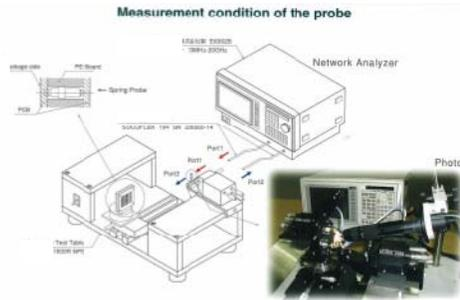

Fig 3. Measurement condition
- (1) Complete $Z_0=50$ ohm Coaxial Spring Probe Contacts.
- (2) Socket GND organize block.
- (3) Regular composed Spring Probe block.
Best performance was brought from a combination of combining (1) and (2). It was confirmed by S parameter loop measurement by specialized board and Network Analyzer using like Fig. 3. And total cost saving comes from composing of (3).
High frequency signal source through a Pico Probe touching to the specialized board (characterized to $Z_0=50\text{ ohm}$) holding Probe or Coaxial Probe be assembled as same condition of IC base socket. And the signal return to Network Analyzer by **loop test condition.** (Fig 3.)